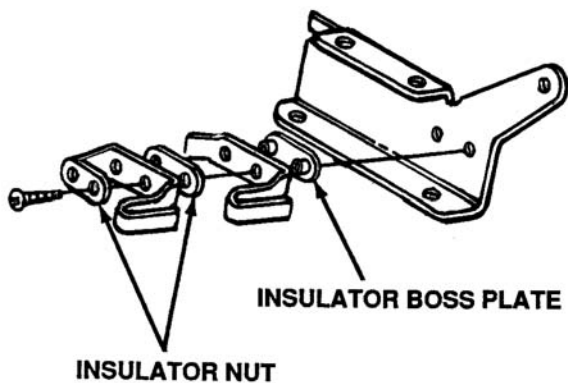

Figure 3-6. Safety Switch Insulator Nut Plates.
2. The seat safety switch insulator nut plates have been redesigned to reduce the chances of a direct short. This will retrofit 1990 production units. See Figure 3-6.